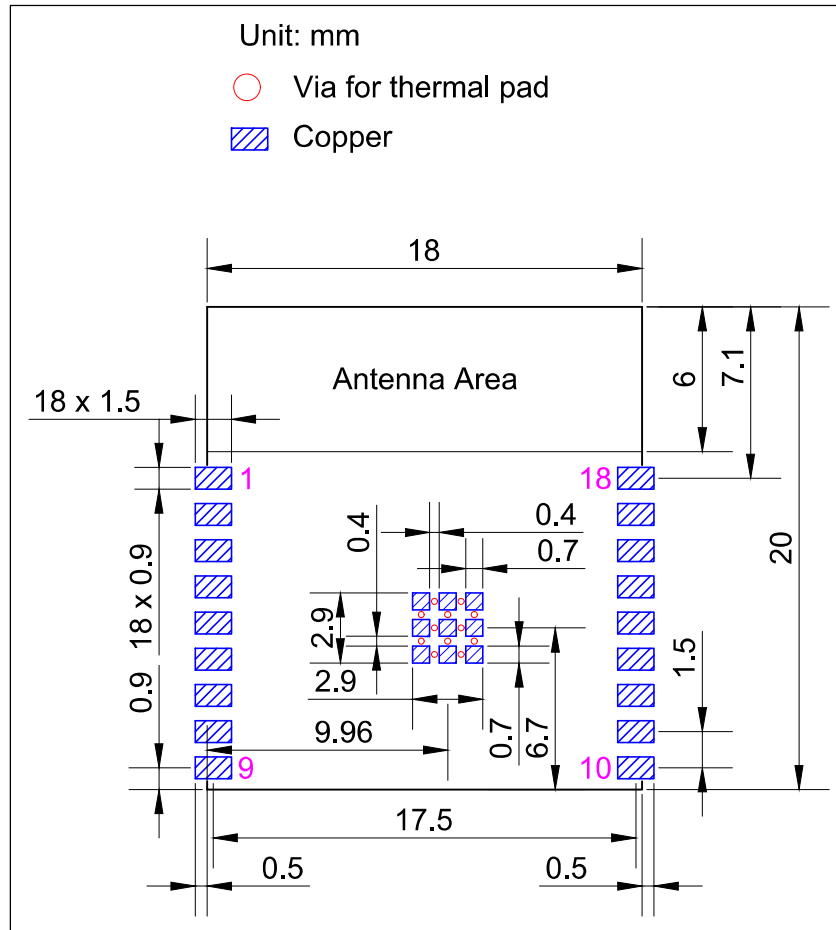
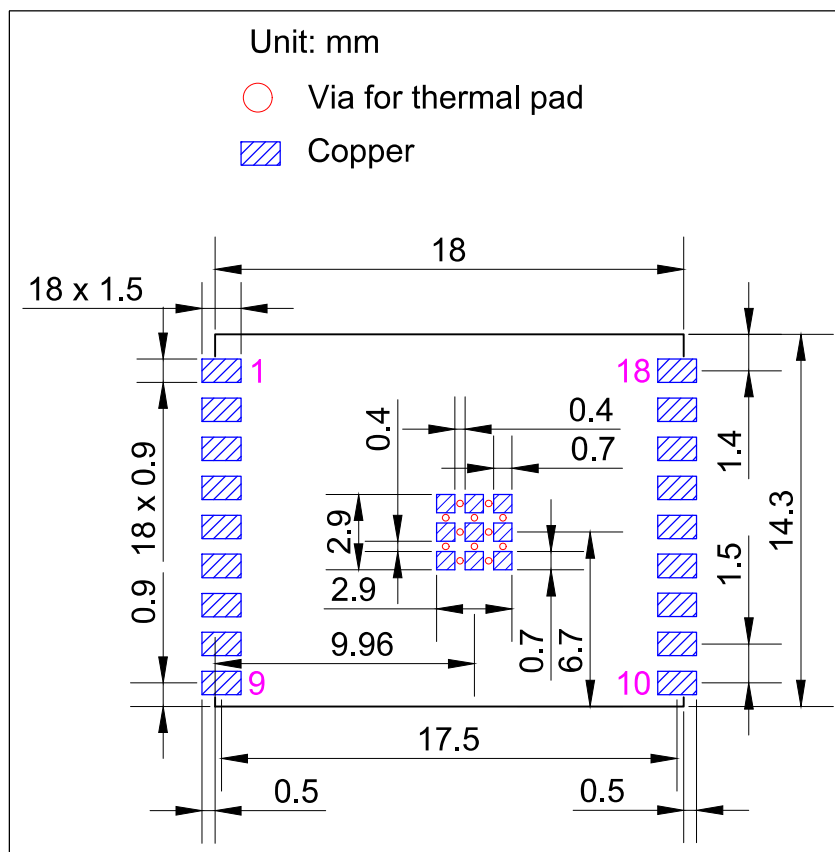

Figure 11-1. ESP32-C3-WROOM-02 Recommended PCB Land Pattern
Figure 11-2. ESP32-C3-WROOM-02U Recommended PCB Land Pattern
- Figures for recommended PCB land patterns with all the dimensions needed for PCB design. See Figure 11-1 *ESP32-C3-WROOM-02 Recommended PCB Land Pattern* and Figure 11-2 *ESP32-C3-WROOM-02U Recommended PCB Land Pattern*.
- Source files of recommended PCB land patterns to measure dimensions not covered in Figure 11-1 and Figure 11-2. You can view the source files for ESP32-C3-WROOM-02 and ESP32-C3-WROOM-02U with Autodesk Viewer.